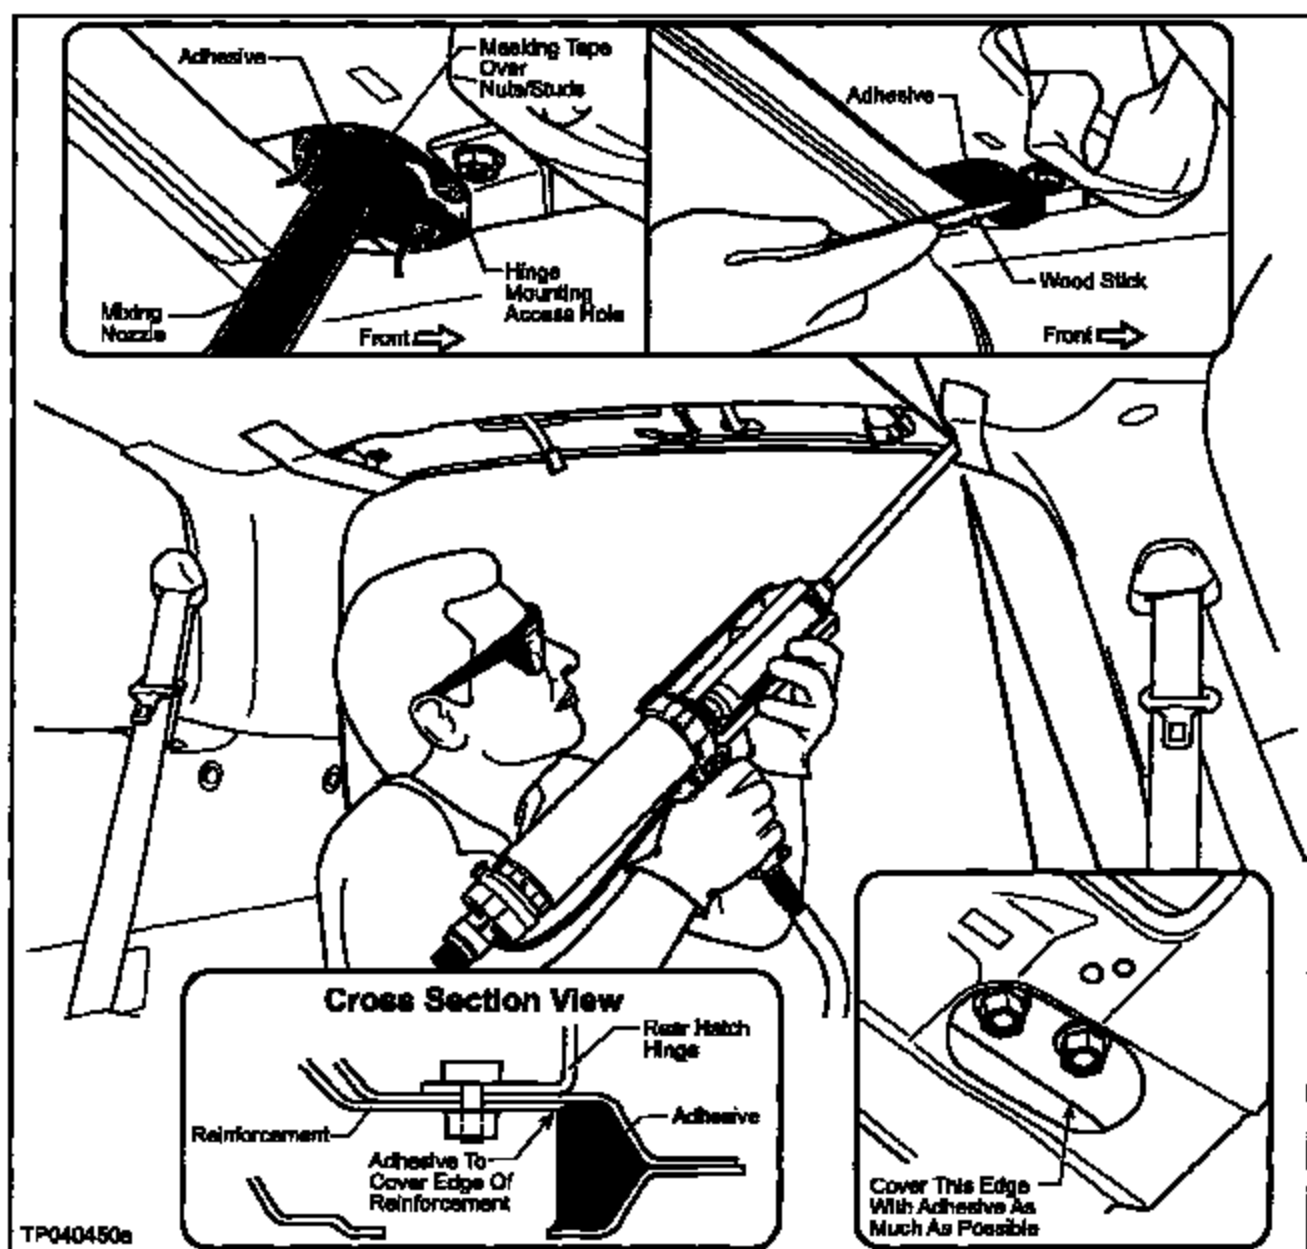

Figure A8
- a. Going through the Hinge Mounting Access Hole, apply Adhesive until "Fill B" of the Cartridge is completely pushed out. See Figure A8.
- Make sure the Adhesive covers the edge of the Reinforcement (see Cross Section View in Figure A8).